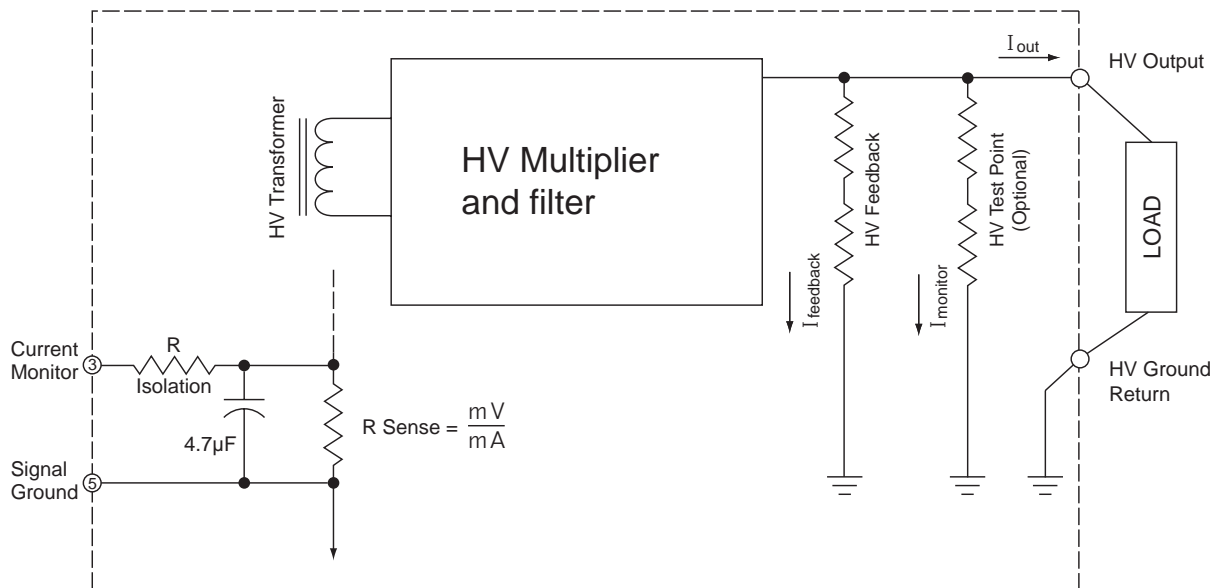

Figure 1. Current Monitoring Circuitry — a Simplified Diagram
**Pin 3 – Iout Monitor:** This pin serves as the Iout Monitor pin, as depicted in Figure 1. Scale factors vary and are unique to each model. The HV Multiplier in each high-voltage power supply is grounded through the Rsense resistor, as shown in Figure 1. The HV Feedback resistors and the HV Test Point resistors are returned to ground and are seen by the power supply as an internal load. This internal load is the source of an offset on the Iout monitor that must be accounted for when making output current measurements. Refer to the individual models' data sheets for details.